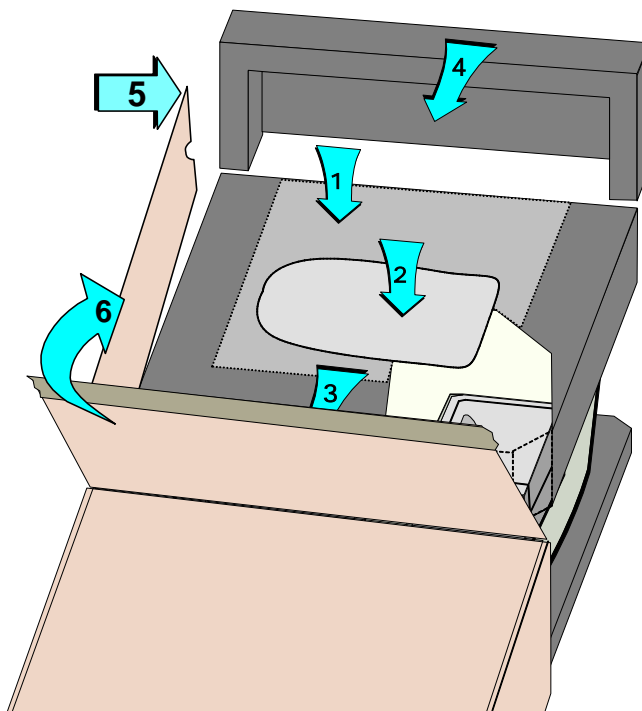

Figure 8-8: Pack the printer for shipping
- 12 Place the top shipping cushion on the printer (step 1 in Figure 8-8).
- 14 Place the accessories bag on top of the shipping cushion (step 2 in Figure 8-8).
- 15 Slide the printer and shipping cushions into the shipping carton (step 3 in Figure 8-8).
- 16 Place the rear shipping cushion in the box, covering the back of the printer, when the printer is completely in the carton (step 4 in Figure 8-8).
- 17 Close the cardboard flap at the opening to the shipping carton (step 5 in Figure 8-8).
- 18 Close the outside flaps on the shipping carton (step 6 in Figure 8-8).